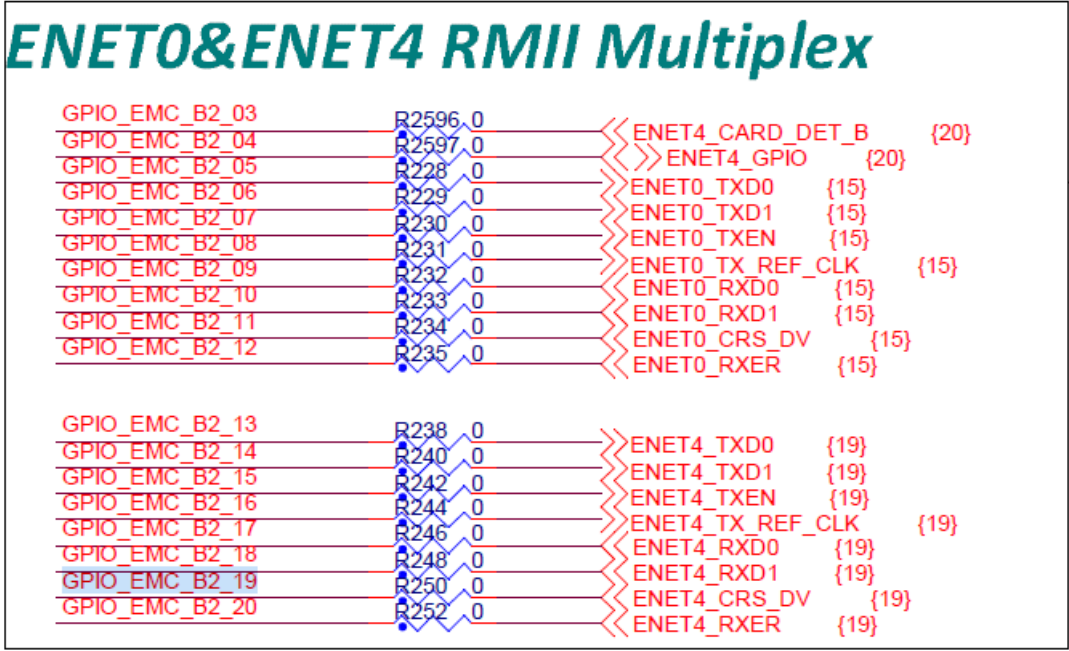

Figure 27. Step 5
6. Remove the resistors R2596, R2597, R228-R235, R238, R240, R242, R244, R246, R248, R250, R252. See Figure 27.